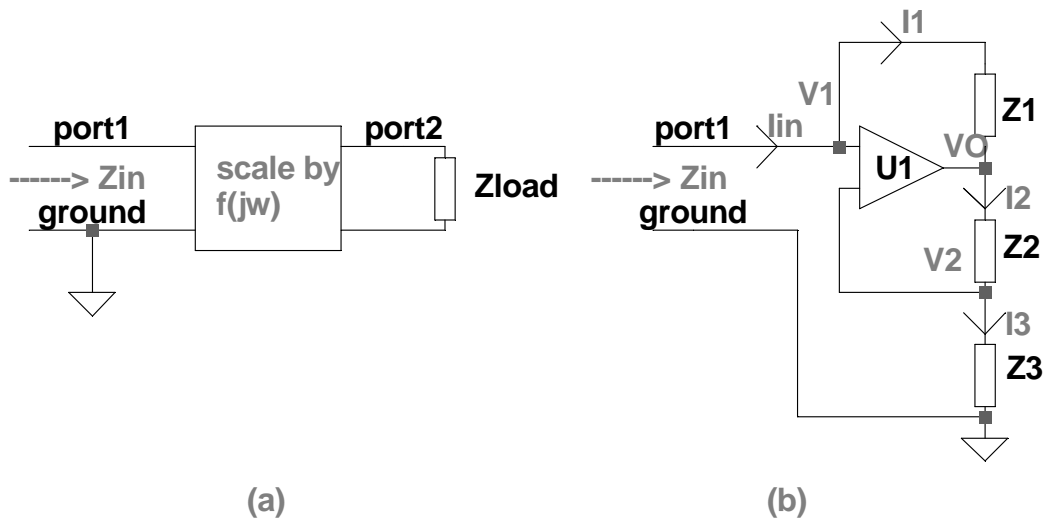

Figure 1: an 'ideal' impedance scaler, and an op-amp circuit to explore
Here we'll address the central problem straight on. We've shown that we can **conceptually** create a new element by multiplying a component's value by a factor K that's a function of frequency. Can we now **practically** realize such an element by attaching our initial component to some kind of 'impedance scaler'? With such a scaler, indicated in figure 1(a), we could hang a certain component of impedance Z on one port, and when we look in on the other port, we'd 'see' an impedance of $Z*K$. Now, if K were a real constant, we already know how to do that, it's just a transformer with a turns ratio of \sqrt{K} . But that doesn't help us when $K=1/(jw)$, or any other function of jw for that matter.
Two key attributes of a good, high-gain op-amp when it's running linearly in a stable, closed-loop circuit are that (1) there's essentially no voltage between the two input pins and (2) there's essentially no current flowing into either input pin. So, consider the circuit shown in figure 1(b) (and yes, I know the input polarity symbols are missing from the amplifier, I'll get to that). Because of property (1) we can see that $V_2=V_1=V$, say, and because of property (2) we can write down by inspection